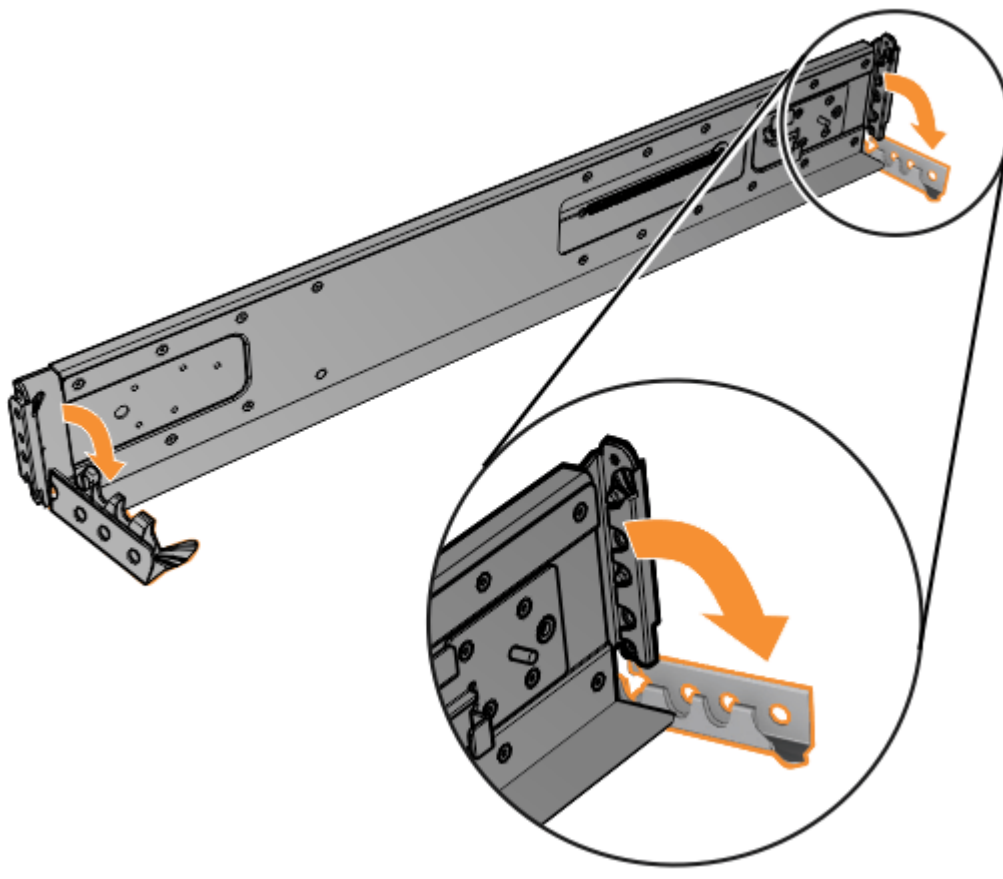

Figure 19. Opening the hinge brackets
- At each end of the rail, grasp the tab and pull *firmly* to open the hinge bracket, as shown in Figure 19 on page 30.